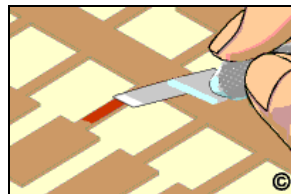

Figure 3: Scrape off the bonding film from solder joint area on the back side.
7. Before trimming out the new surface mount pad carefully scrape off the bonding film from the solder joint connection area on the back side. (See Figure 3).